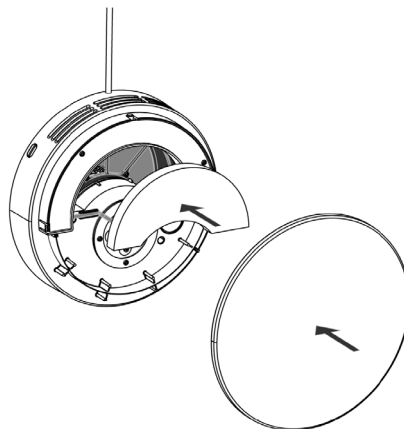

Figure 36 - Place a new internal filter in the ventilation unit
9. Detach the internal cover and place a new filter in the unit. Be careful that the smooth side of the filter is placed facing the ventilation unit, see Figure 36 below.